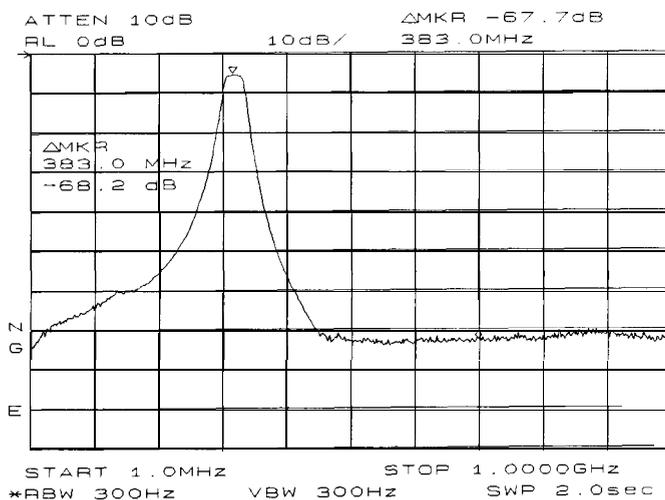

Figure 2-38. Measure the rejection range with delta markers.
2. Use the knob to position the second marker in the rejection area of the bandpass filter as shown in Figure 2-38.